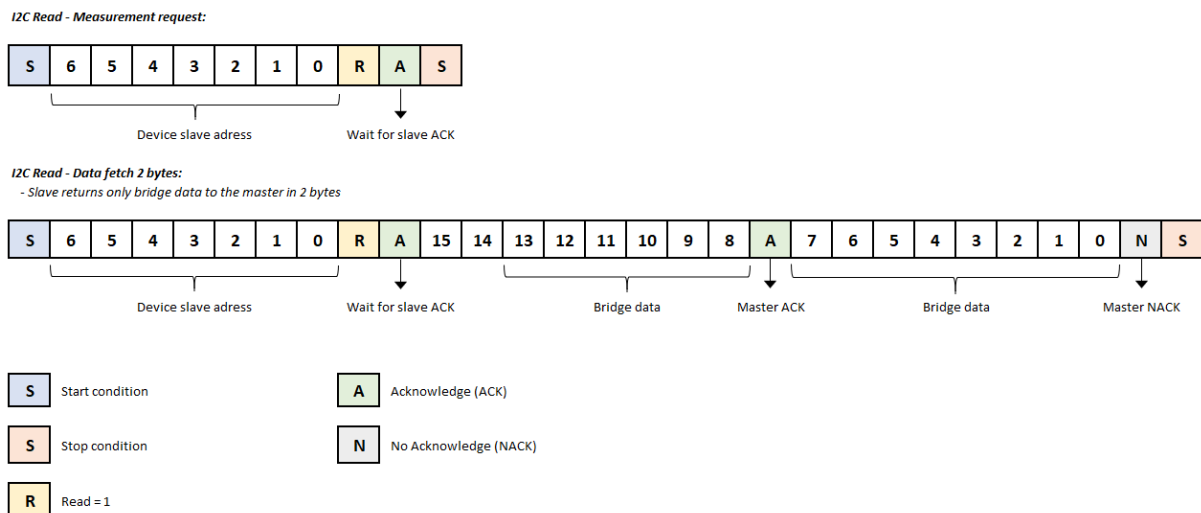

Figure 4. Digital pressure data transfer from HUBA Type 450 sensor
Digital data transfer is presented in **Figure 4**
Pressure output signal from HUBA CONTROL Type 450 come as 14-bit values to the output register. Master, which would like to read this data, starts communication with the start condition. After that, the master sends 7-bit slave address (factory default is 0x28) and data direction bit R (R = "1"). The slave confirms this address with the acknowledge (A) bit first and afterwards sends the desired data with 2 bytes: 6 bits [13:8] of first byte is the most significant byte for pressure value, second byte [7:0] is the least significant for pressure value. The master must confirm each received byte with the acknowledge bit (see **Figure 4**). Master can stop the data transfer by sending the stop condition or can generate additional acknowledge bit after 2 receiving bytes of data (pressure) for continuing data receiving from slave (type 450 sensor).